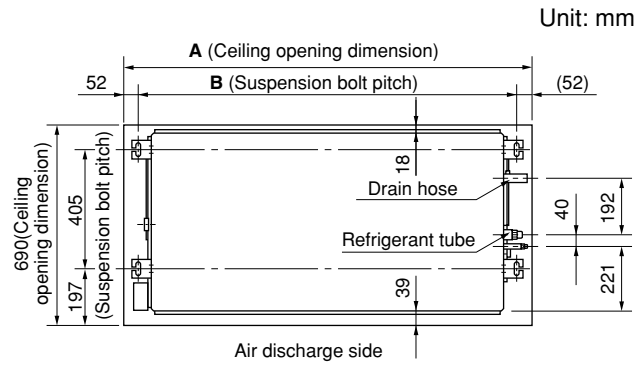

Fig. 3-18
(2) Follow the diagrams to make the holes in the ceiling. (Figs. 3-18 and 3-19)
(4) Cut the ceiling material, if necessary. (Figs. 3-18 and 3-19)